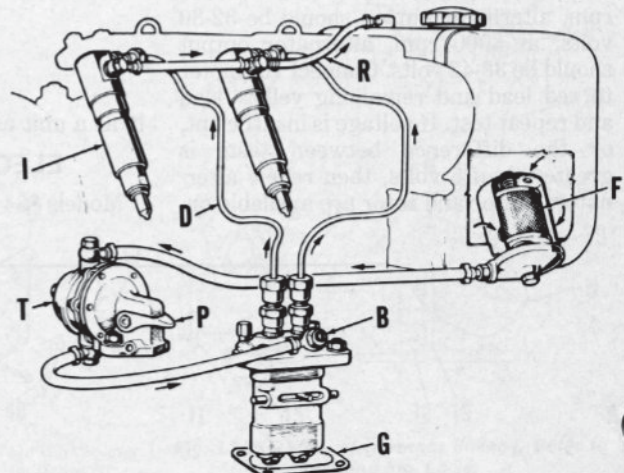
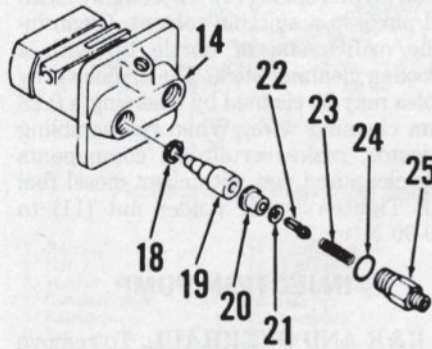

Fig. L4-3—Fuel circuit diagram.
Fig. L4-4—Partial exploded view of fuel injection pump.
BLEED FUEL SYSTEM. To bleed fuel system, remove fuel injection pump bleed screw (B—Fig. L4-3), then operate fuel pump primer lever (P) until air-free
Injection pump timing is adjusted using shim gaskets (G—Fig. L4-3) between pump body and mounting surface on crankcase. Injection should occur at 26° 45'–28° 30' before top dead center. To check injection pump timing, unscrew high pressure injection line of number 1 cylinder from injection pump delivery
valve holder (25—Fig. L4-4). Unscrew delivery valve holder (25) and remove spring (23) and delivery valve (22), then screw delivery valve holder (25) back into pump. Move throttle control to full speed position. Operate primer lever (P—Fig. L4-3) while rotating engine in normal direction (counterclockwise at pto) so number 1 piston is on compression stroke. Note fuel will flow out of delivery valve holder. Stop engine rotation at moment fuel ceases to flow. Timing marks (I and M—Fig. L4-5 or L4-6) should be aligned. To advance ignition timing, remove shim gaskets (G—Fig. L4-3); install shim gaskets to retard injection timing. Tighten injection pump retaining screws to 24.5 N·m. Reinstall removed pump parts after checking timing.